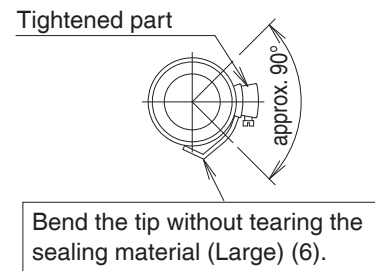

Fig. 15
- Do not tighten the metal clamp (1) with the torque more than the specified value. The drain hose (2), the socket or the metal clamp (1) may be damaged.
- Wrap the vinyl tape around the end of the metal clamp (1) so that the sealing material (Large) (6) to be used at the next process may not be damaged with the clamp end or bend the tip of the metal clamp (1) inward as shown. **(Refer to Fig. 15)**